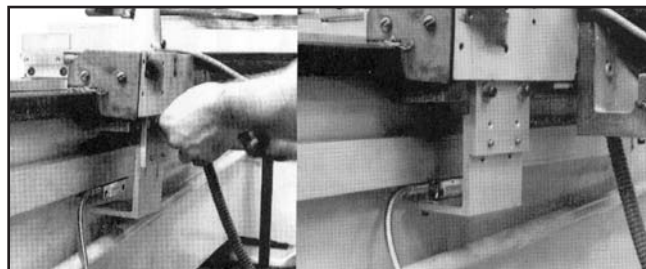

Figure 26. Proper reader head mounting with provided brackets.
4. Mount the reader head to the saddle with the provided brackets (**Figure 26**). Modification may be required for some lathes. Mount covers over the slides as shown in **Figure 27**.